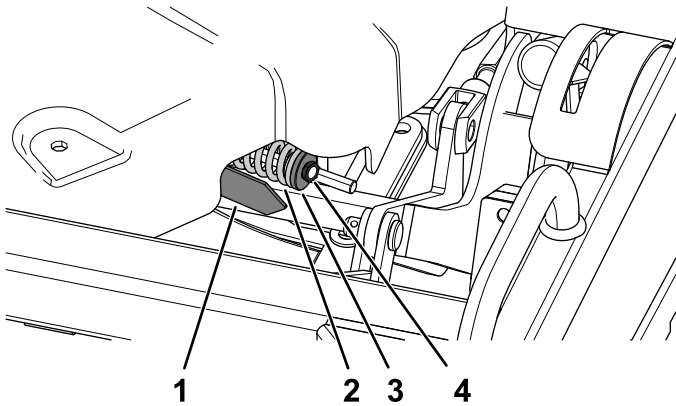

Figure 132
4. Loosen or tighten the jam nut until the tension indicator arrow aligns with the outer surface of the washer (Figure 132).